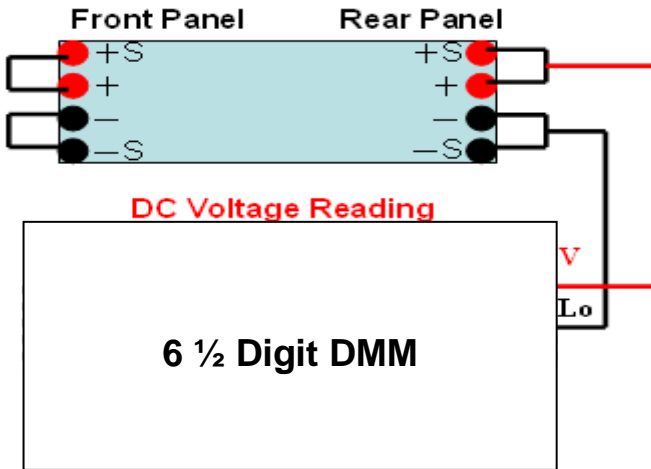

Figure 33- Voltage Calibration Setup
- If the maximum output current of the power supply is greater than the current limit of the DMM, then a current shunt must be used. The wire connections between the power supply and the DMM will be setup like Figure 33.